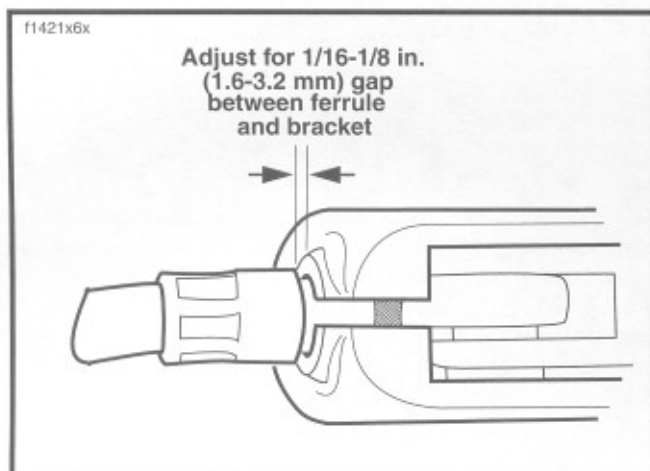

Figure 6-12. Adjusting Clutch Free Play
8. Turn cable adjuster clockwise away from jam nut until slack is eliminated. Pull clutch cable ferrule away from clutch lever bracket to check free play. Turn cable adjuster as necessary to obtain 1/16 to 1/8 inch free play between end of cable ferrule and clutch lever bracket, as shown in Figure 6-12.